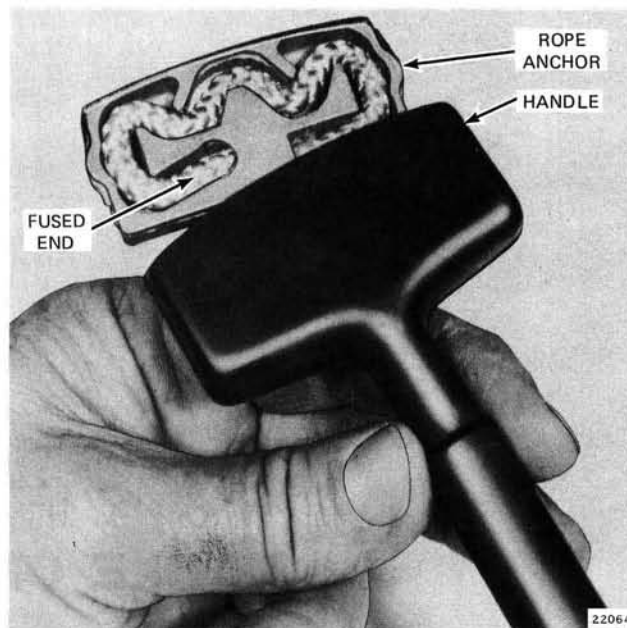

Figure 8-3. Removing Rope Anchor
1. Pull out rope and tie a knot to relieve spring tension while removing starter handle. Remove rope anchor from handle, and disengage rope from anchor. See Figure 8-3.
4. Thread rope through handle, and install in rope anchor. See Figure 8-3. Press rope anchor into handle and untie knot. Allow rope to slowly re-coil on pulley.